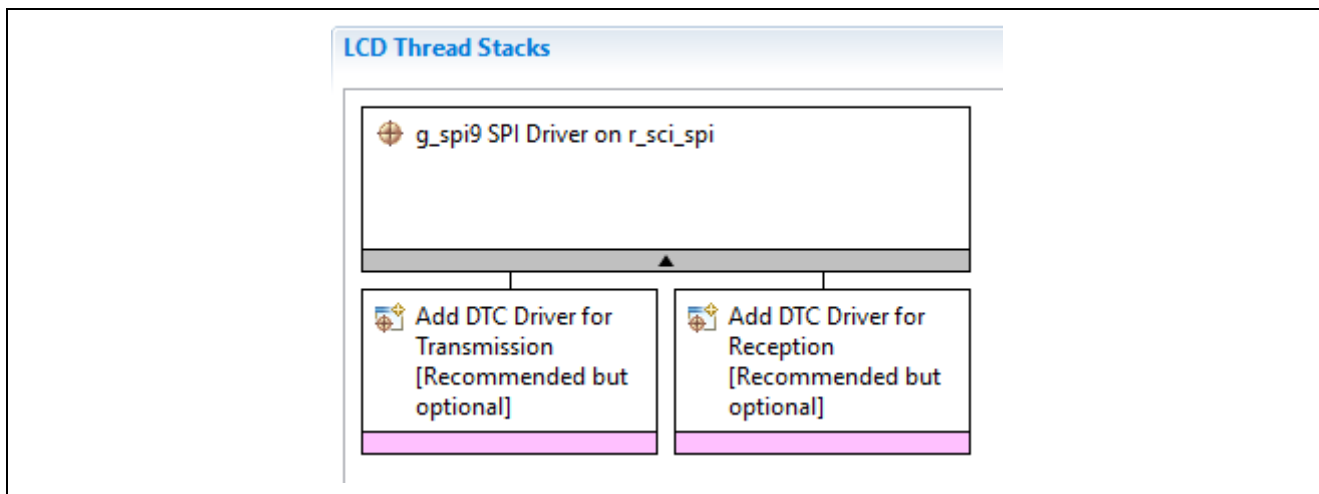

Figure 12 Disabling DTC driver
5. Under the newly added `r_sci_spi` driver, disable the DTC driver for the transfer and reception module in the configurator, as shown in Figure 12.